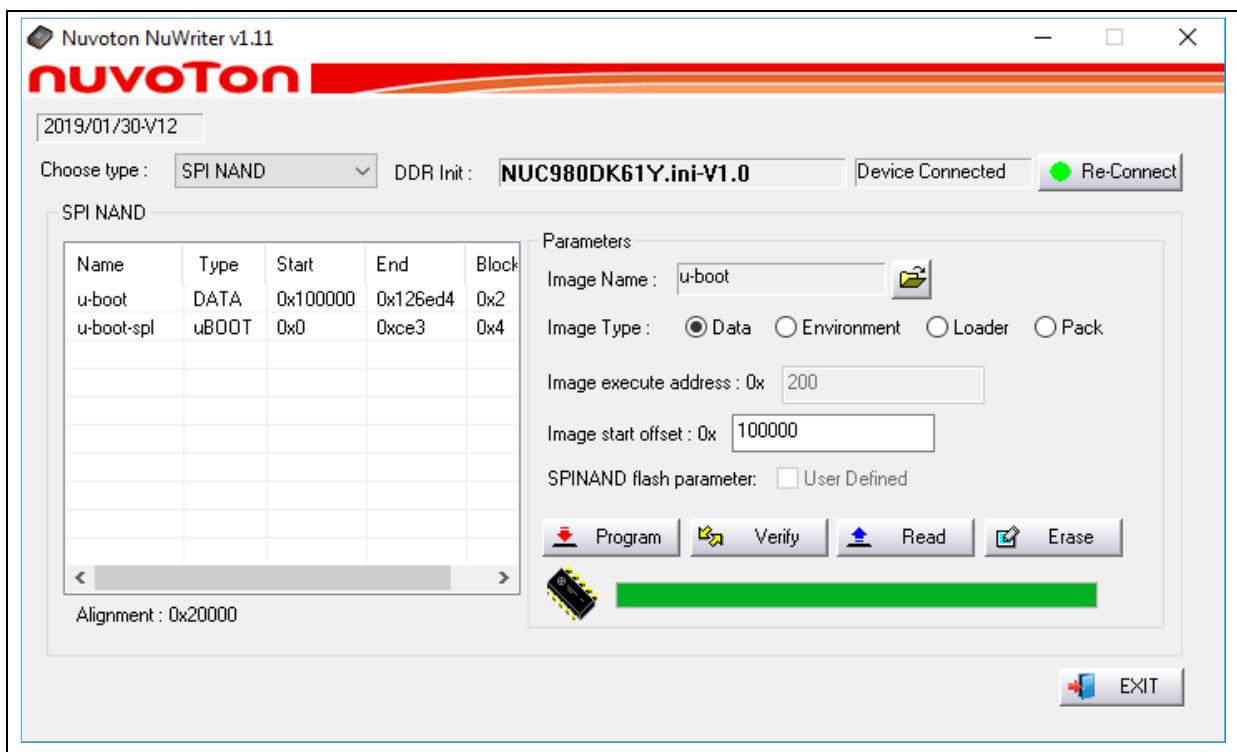

Figure 4-7 Program u-boot
5. According to Figure 4-7, following the steps to program u-boot.bin in the “uboot_v2016.11” folder: